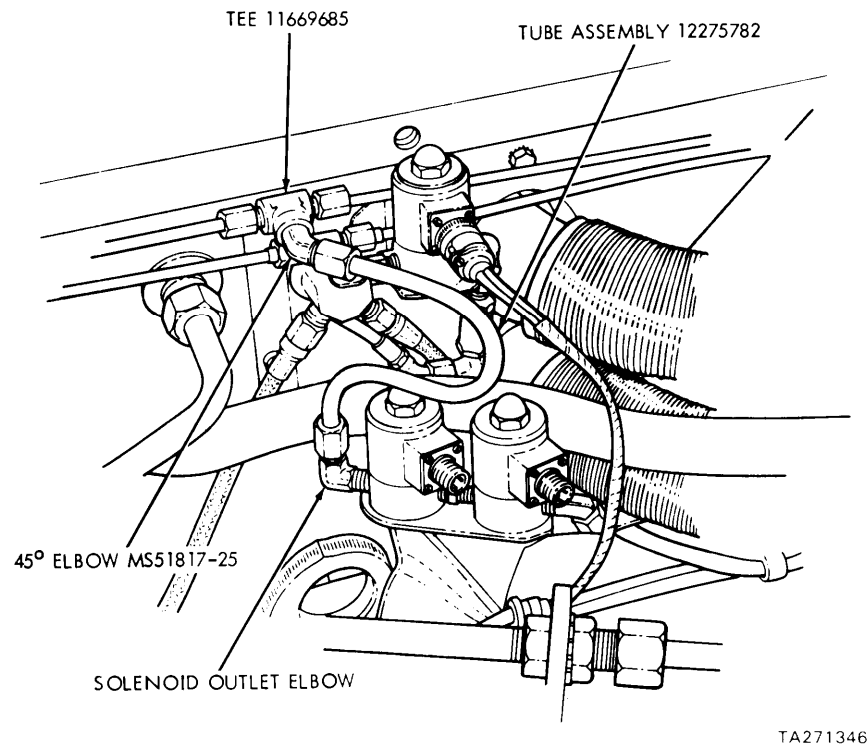

Figure 8. Installation of Solenoid Valve Outlet Tube
(1) Obtain tee 11669685 and 45° elbow MS51817-25 from kit. Secure tee in vise, apply teflon tape on 45 elbow and install elbow in tee (figure 8).
(2) Connect tube assembly 12275782 to solenoid outlet elbow and 45° elbow MS 51817-25 (figure 8). Do not tighten tube nuts at this time.
(6) Tighten solenoid outlet tube (figure 8) nuts and left and right bank tube nuts (figure 8).